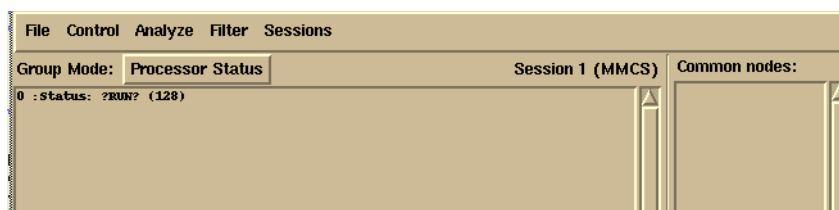

Figure 10-3 Processors in Run status
3. Then click **Attach**. At this point, you have not yet affected the state of the processors. Choose **Select Grouping Mode** → **Processor Status**. Notice the text in the upper-left pane (Figure 10-3). The Coreprocessor tool posts the status *?RUN?* because it does not yet know the state of the processors. The number *128* is the number of nodes in the block that are in that state. The number in parenthesis always indicates the number of nodes that share whatever attribute is displayed on the line (the processor state in this case).